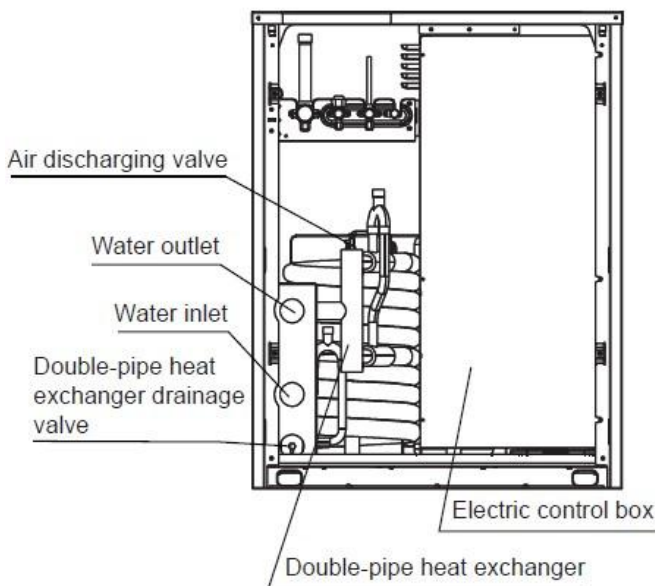

Fig.3-1
- 5) When the unit will not be used for a long time in winter, water inside the double-pipe heat exchanger and the water pipes should be drained out in case for being frozen. The water inside the double-pipe heat exchanger can be drained out by its drainage valve, the drain age valve position as Fig.3-1 display. The user can take down the front plate and open the drainage valve for water draining, and also can without taking down the front plate then use a straight screwdriver to go through the small hole in the front plate and open the drainage for water draining, the small hole position as Fig.3-5 display.